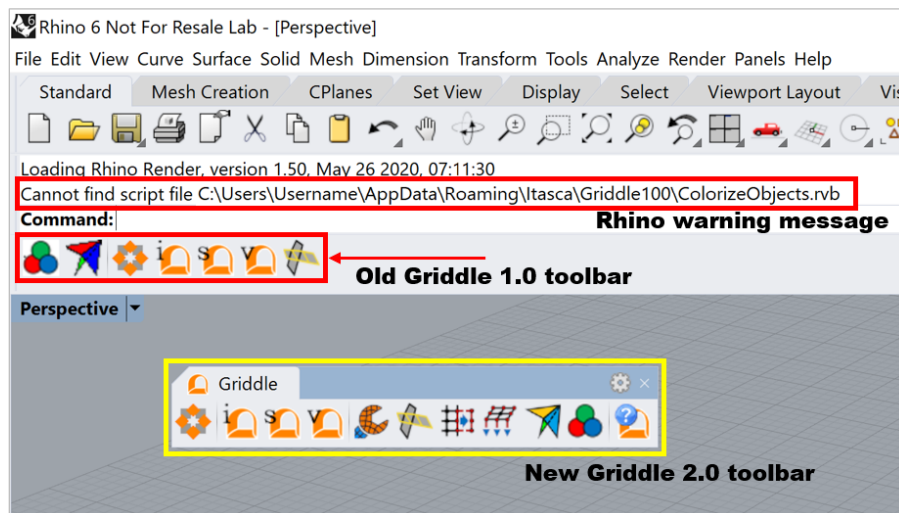

Figure 2: The *Rhino 6* window with *Griddle 1.0* and *Griddle 2.0* toolbars.
- Figure 2 shows that *Rhino* outputs a warning “Cannot find script file ...ColorizeObjects.rvb”. This message may appear when *Rhino* starts. This occurs because the *Griddle 2.0* installer removes *Griddle 1.0* script files, however, *Rhino* is not aware of that (as these files were originally installed manually). Users may simply ignore this warning or may remove the reference to old scripts in *Rhino* to not have the warning. To do so, use the menu items **Tools** → **Options** → **RhinoScript**. Find “ColorizeObjects.rvb” in the list of scripts and delete it (click on **X**).